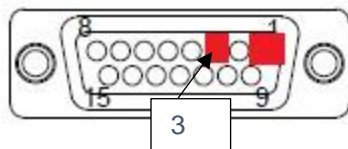

Figure 192
3. If the fuse is good check for power at pin 1 of the connection to the power harness extension, at pin 1 Figure 192.
4. Check for a ground at pin 3 on the power harness. Figure 192